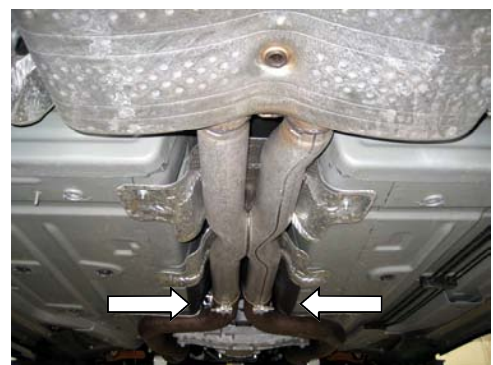

Figure 3
5. Loosen the clamps shown in figure 3 located in front of the x-pipe assembly.